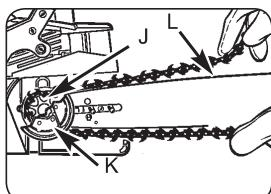

Fig. 3G
6. Slip the chain around the sprocket (J) behind the clutch (K). Make sure the links fit between the sprocket teeth (Fig. 3G).
7. Guide the drive links into the groove (L) and around the end of the bar (Fig. 3G).